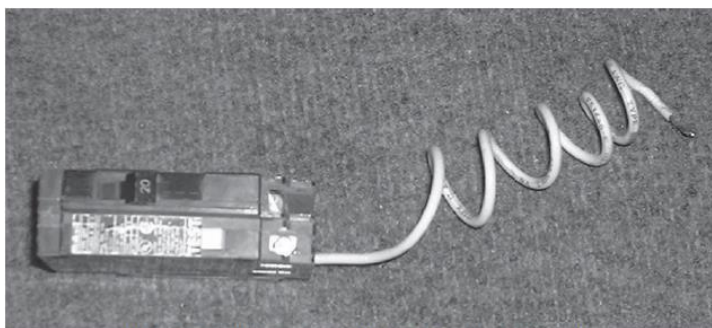

Figure 1 ■ Single-Pole, 20-Ampere GFCI Circuit Breaker
9. Select and install a single-pole, 15-ampere GFCI circuit breaker in the panel enclosure (*Figure 1*). Turn the circuit breaker to the OFF position.